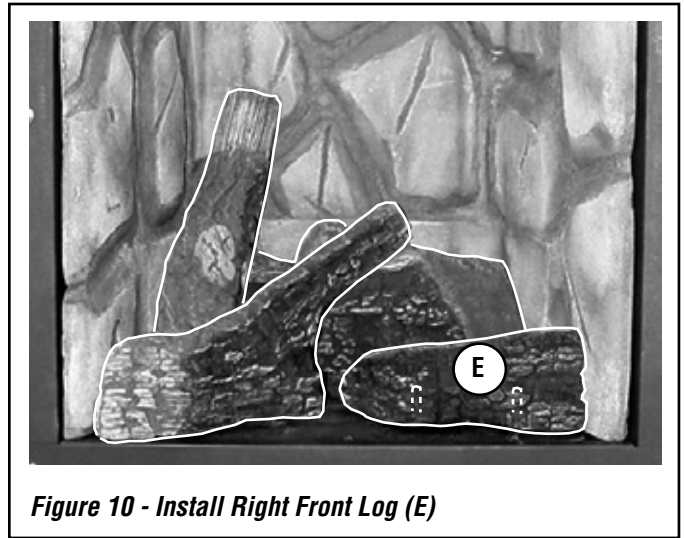

Figure 10 - Install Right Front Log (E)
4. **Place the right front log (E) as shown in Figure 10.** Position the hole on the bottom of log E over pins #4 and #5.